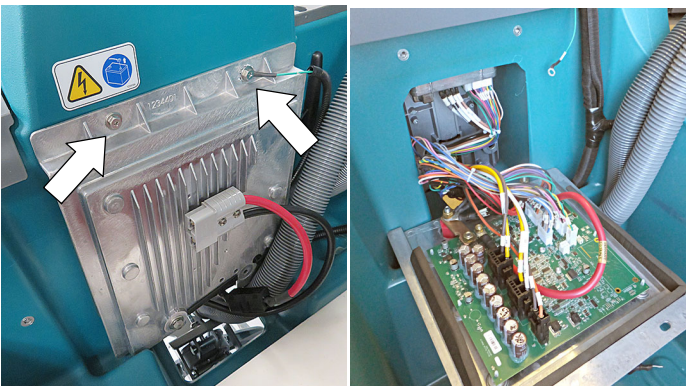

Fig. 2
4. Remove the top two screws from the heat-sink panel and carefully lower panel as shown (Figure 2). Place a piece of cardboard over the battery terminals to prevent contact with metal heat-sink panel.